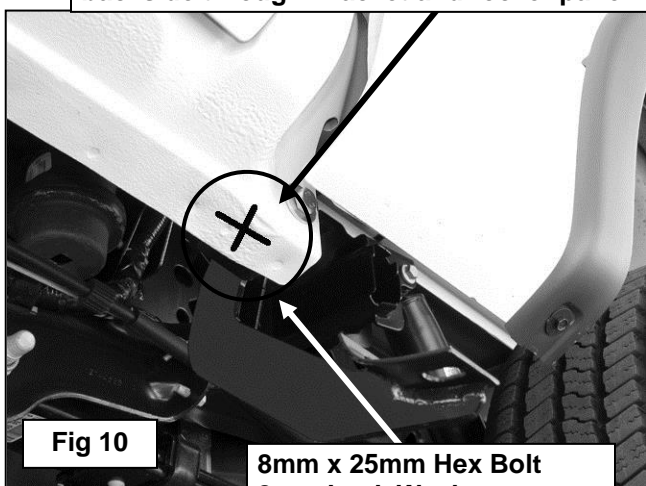

Fig 10
- a. **Optional Drilling:** The Rear Bracket has an additional hole on the bottom of the plate where the Bracket rests on the pinch weld. Use the Bracket as a guide and drill a 3/8" hole through the Bracket and pinch weld, **(Figure 10)**. Bolt the Bracket to the pinch weld with (1) 8mm x 25mm Hex Bolt, (1) 8mm Lock Washer, (2) 8mm STD Flat Washers and (1) 8mm Hex Nut. Do not tighten hardware at this time.